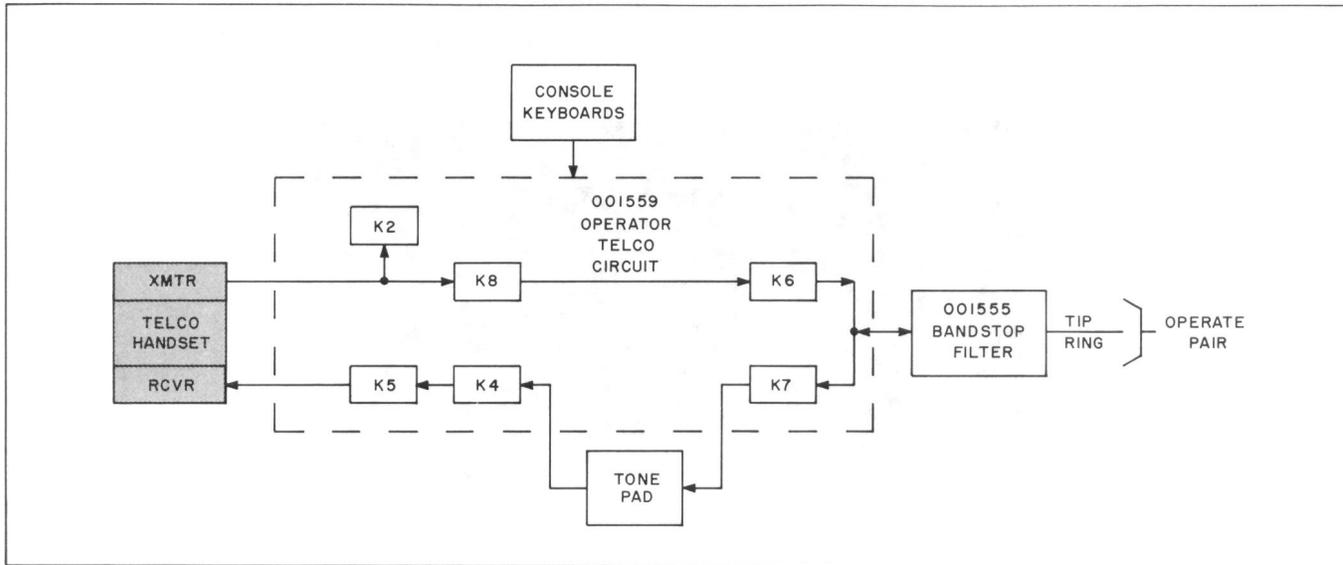
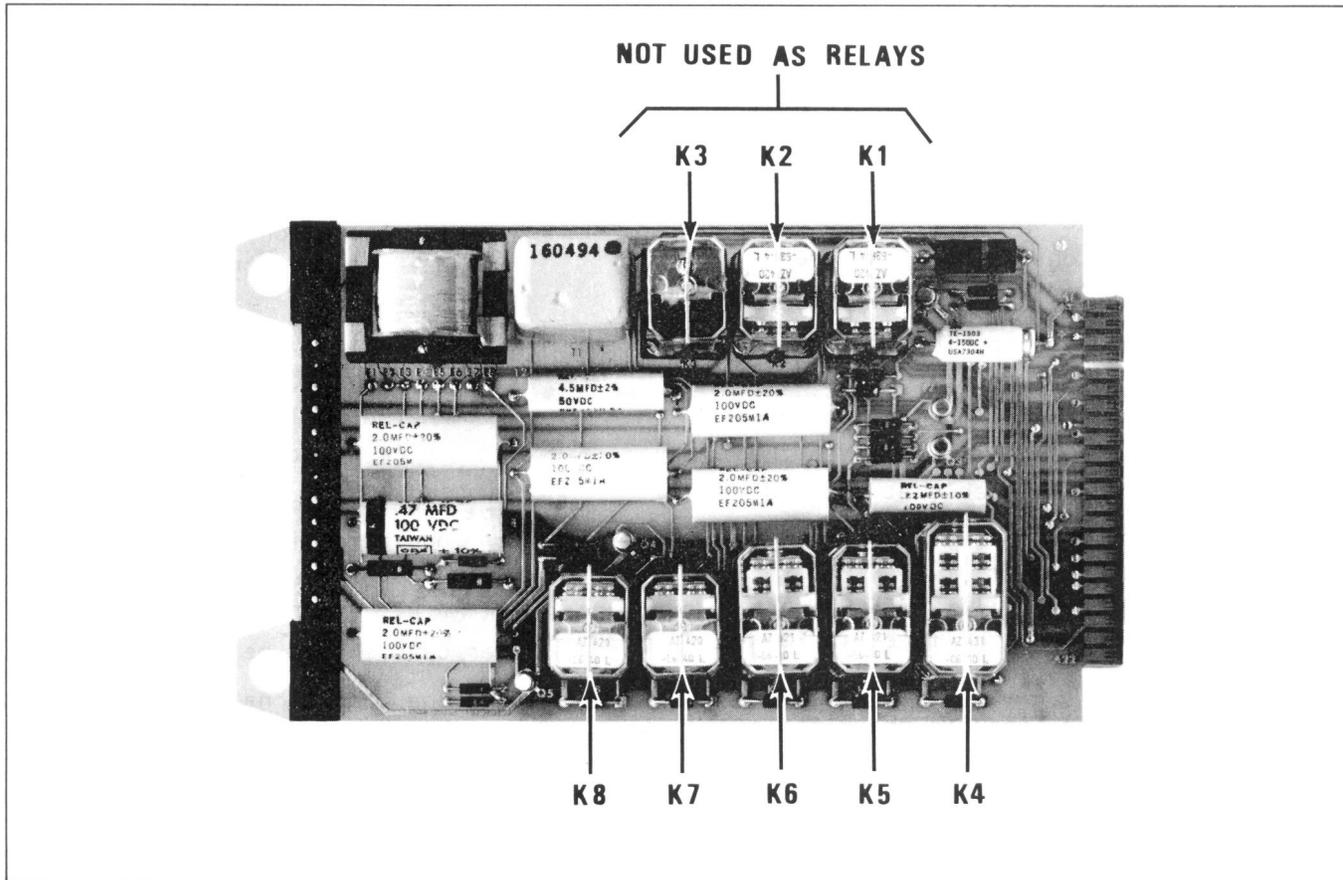

Figure 10 -Block Diagram of Components Comprising Master Station's Voice and Telco Circuits
Figure 11 - Card 001559—Component Arrangement
3.07 VOICE AND TELCO CIRCUITS - Card 001559 is the focal point of control for the console's rotary dial and tone pad, the telco handset and optional MF tone signaling pad. (See Fig. 10) Various relays on the card provide circuit-switching in response to related pushbutton operations at the console. The relays and circuits can be checked as follows:
2. If trouble is experienced with either of the above circuits, check or change the associated relays shown in Figure 10. Also, refer to the relay actuation table at the end of this procedure. The location and designation of all the relays are shown in Figure 11. Part numbers for all relays are listed in Paragraph 5 of this practice.
- b. Check or change relay K6 on Card 001559 (Figure 11.)